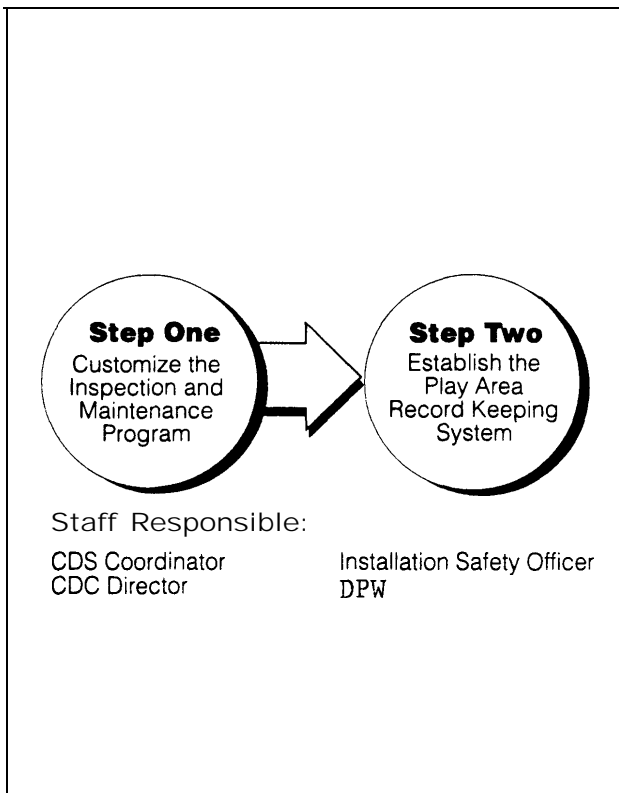

Figure 1-3: Phase one - establish the program.
a. *Phase One, Establish the Program.* Figure 1-3 illustrates this phase and the staff responsible. Phase one consists of two steps: